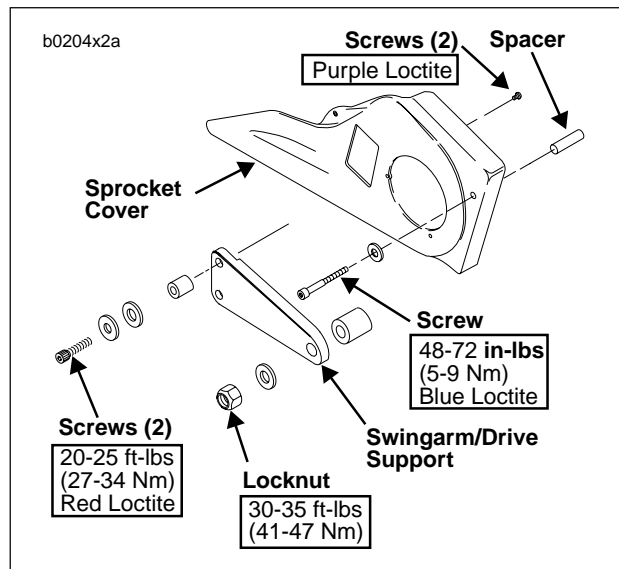

Figure 2-69. Sprocket Cover
4. See Figure 2-69. On the right side of the motorcycle, remove the front sprocket cover assembly.
5. See Figure 2-69. Remove two screws that attach sprocket cover to the backside of the swingarm/drive support. Retain screws.
17. See Figure 2-69. Apply **LOCTITE THREADLOCKER 243** (Blue) to threads of two sprocket cover to swingarm/drive support screws and install new sprocket cover to swingarm/drive support.
18. See Figure 2-69. Install sprocket cover assembly with original hardware.